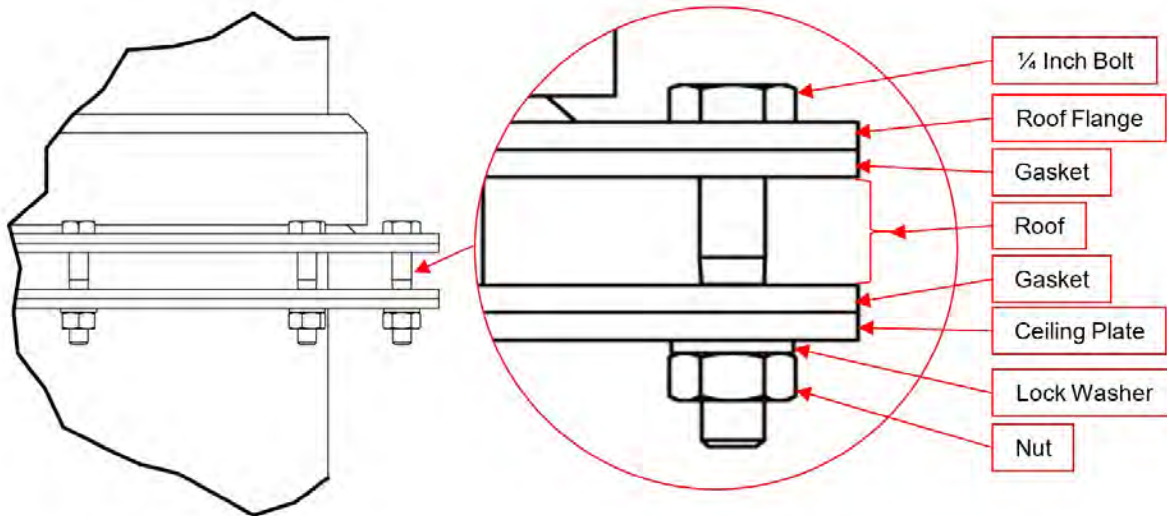

Figure 5-8 Fasten Assembly Together
d. Fasten this assembly (Figure 5-8) together using: